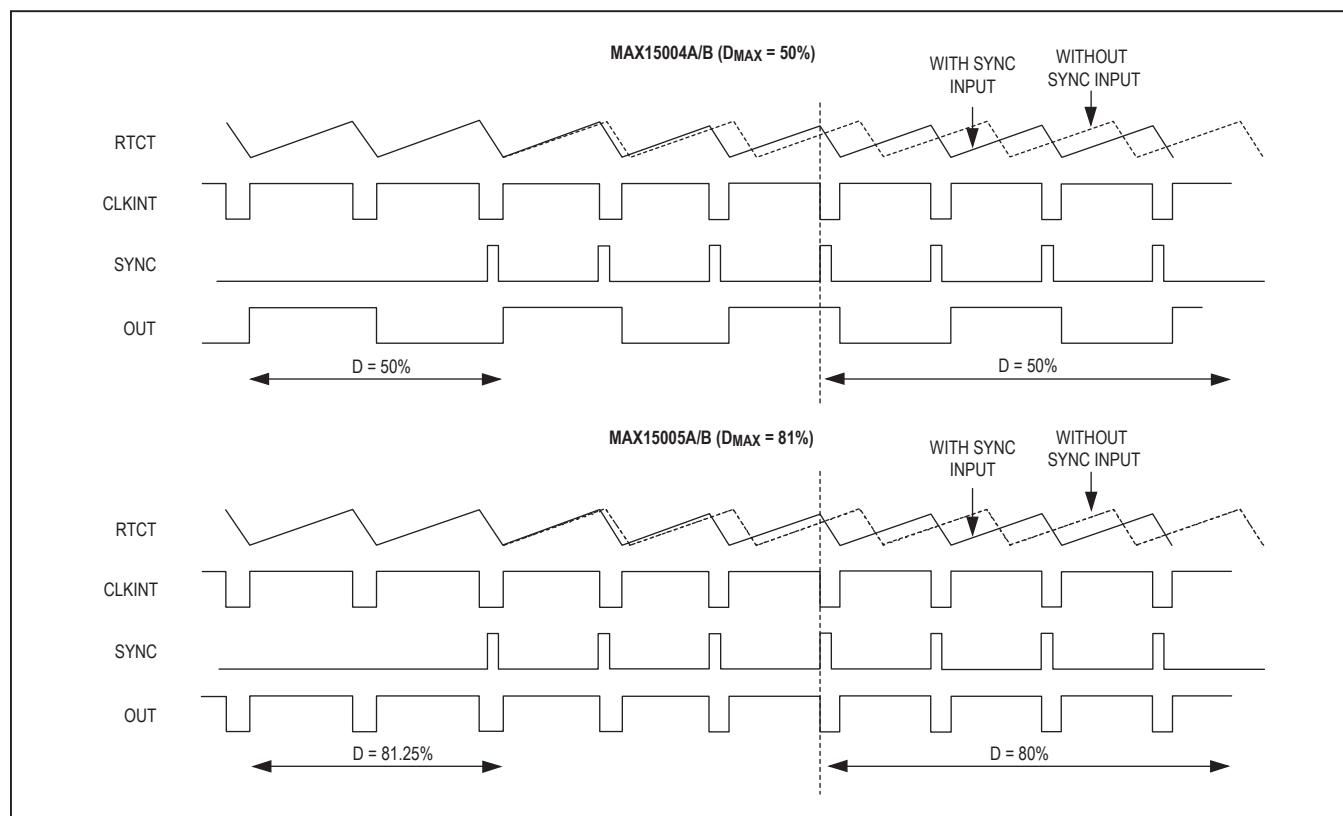

Figure 2. Timing Diagram for Internal Oscillator vs. External SYNC and  $D_{MAX}$  Behavior
**Note 4:** The external SYNC pulse triggers the discharge of the oscillator ramp. See Figure 2. During external SYNC,  $D_{MAX} = 50\%$  for the MAX15004A/B/C/D; for the MAX15005A/B/C/D, there is a shift in  $D_{MAX}$  with  $f_{SYNC}/f_{OSC}$  ratio (see the Oscillator Frequency/External Synchronization section).